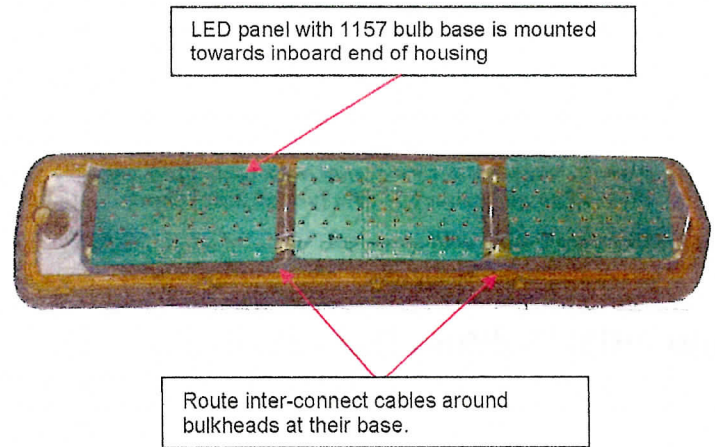

Figure 1
- 3.2. **CAUTION:** The LED panel assemblies must be installed in proper location and orientation for the panels to operate properly. Each panel is labeled 'RH Top' or 'LH Top' for each side. Each set has one 1157 bulb base wired to it on one end. This end will be on the inboard end (end towards the vehicle's center) of the taillight housing, see Figure 1. Also, the top of each panel must be orientated to the top of the taillight housing. If they are flipped upside down, then the sequential patterns will not operate correctly.
- 3.3. If the grommets were installed, pass the single Pink wire through the grommets on the inboard side. Temporarily position the appropriate LED panel assembly within the taillight housing as shown in Figure 1. Each LED panel should be centered vertically within each lighting cell while the interconnection cable is looped around the bottom side of lighting cell bulkheads. The mounting bosses with mounting tape should closely match the contour of the reflector surfaces in the lighting cells. While the inboard and midboard panels will fit snugly between the bulkheads, the outboard panel will need to be justified towards the midboard panel.